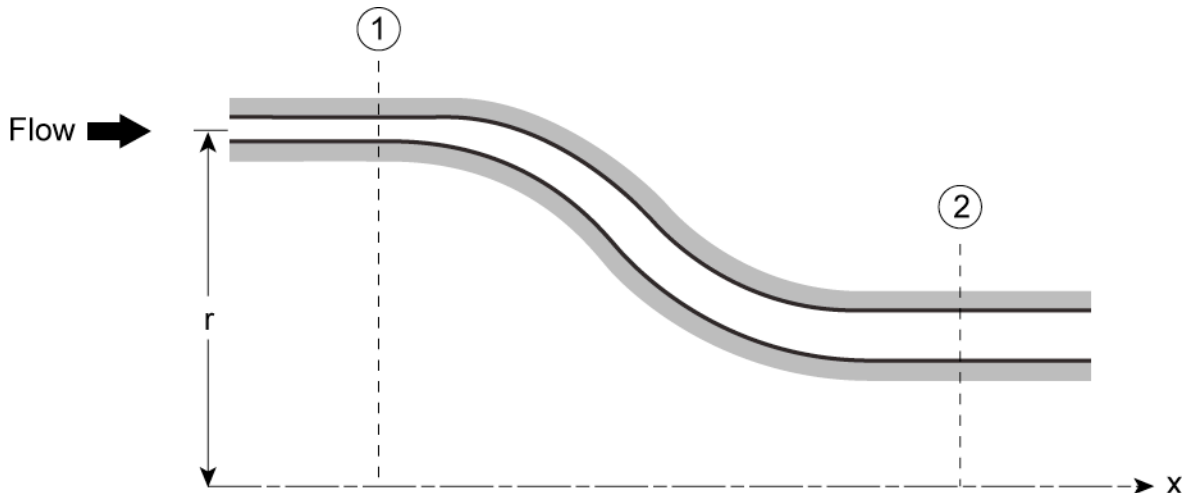

Figure 1: Axisymmetric swirling flow in an annular duct
A) An inviscid compressible fluid flows isentropically in an axisymmetric annular duct, with the duct height much smaller than the duct radius, as sketched in Figure 1. At station 1 there are axial and circumferential (θ) velocity components, and the flow direction is at an angle of 60 degrees from the x -direction. The Mach number at this location is subsonic and equal to M_1 . Between station 1 and station 2, the mean radius of the duct (r in Figure 1) decreases by a factor of two and the duct height (difference between inner and outer radii) increases by a factor of two.